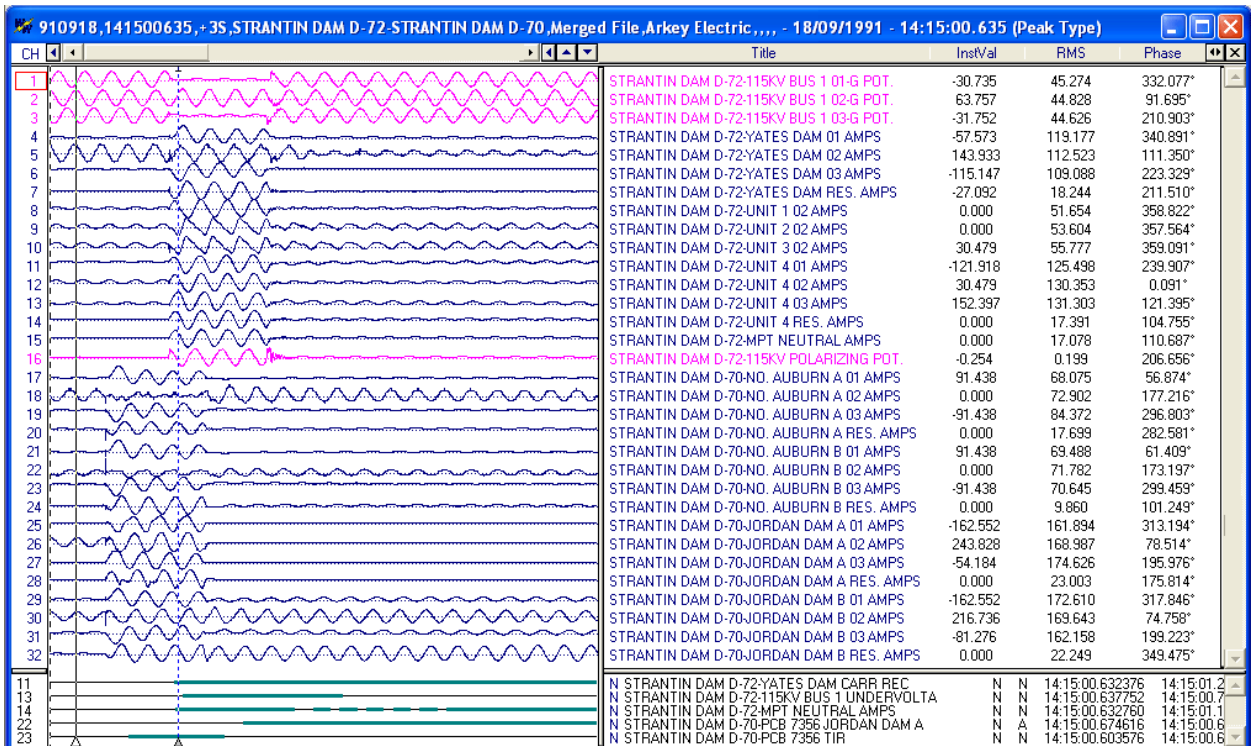

Figure 1.25 Merge Waveform Files By Sample
- By Sample: Merge regardless of time stamps. The reference time is from the first marked file. And the file with the least amount of samples determines the length of the file. Refer to Figure 1.25.